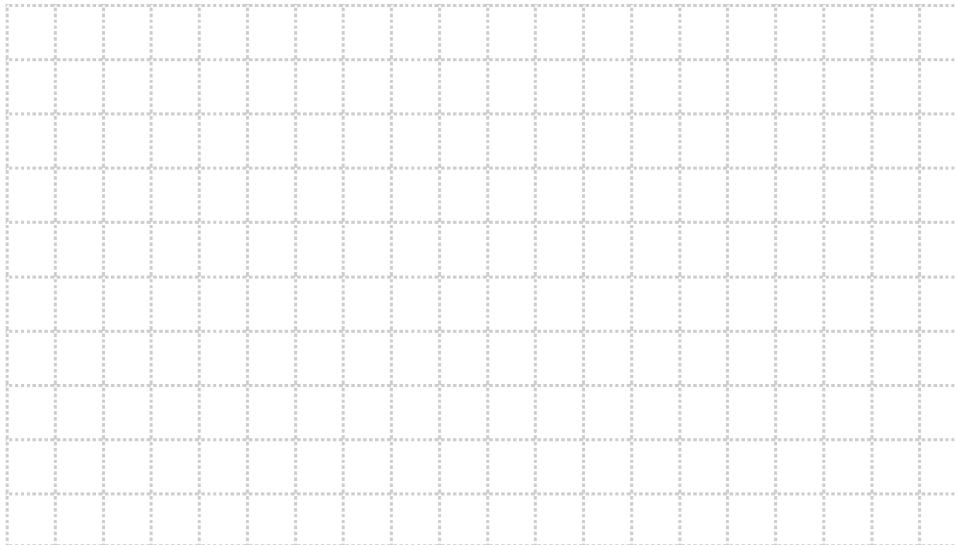

Figure 1-10. Flow rate versus speed curve.
14. Plot the flow rate versus speed (30 Hz \approx 1725 r/min) curve in Figure 1-10.